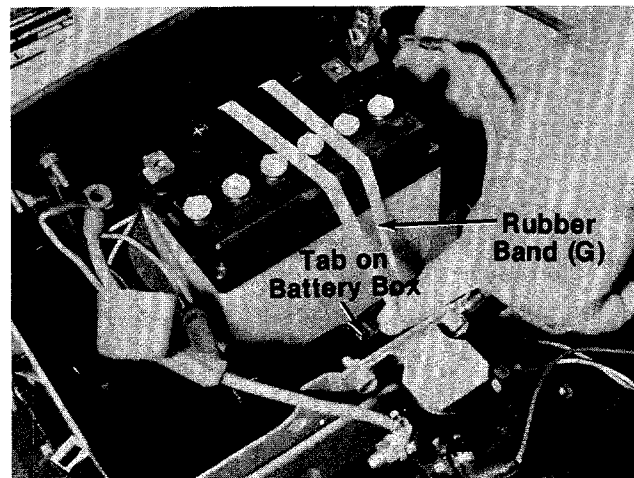

FIGURE 10.
12. Secure the battery to the battery box by stretching the rubber band (G) provided across the battery. Loop each end around the tab on the sides of the battery box. See figure 10.